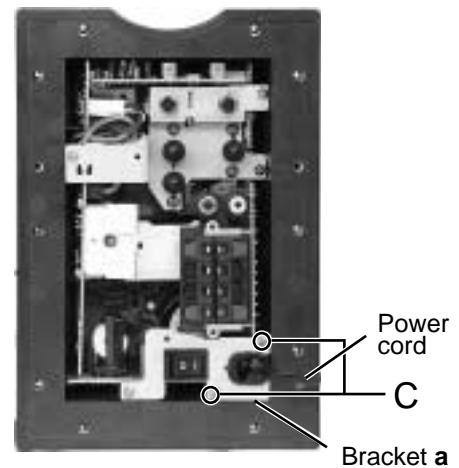

Fig.4
■ **Removing the power cord (See Fig.4, 5)**